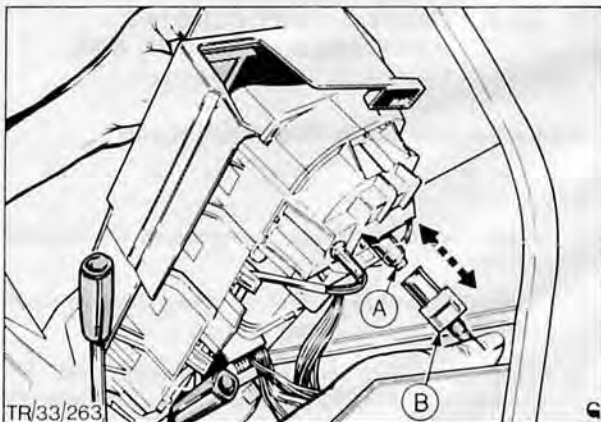

Fig. 15. Disconnecting speed cable
8. Disconnect speedometer drive cable by depressing outer sleeve and releasing retaining peg, Fig. 15. Guide instrument cluster housing, complete with switches and auxiliary warning light panel (where applicable) clear of facia panel.
4. Unscrew four instrument housing securing screws, Fig. 15, and lift instrument housing to separate from facia panel.